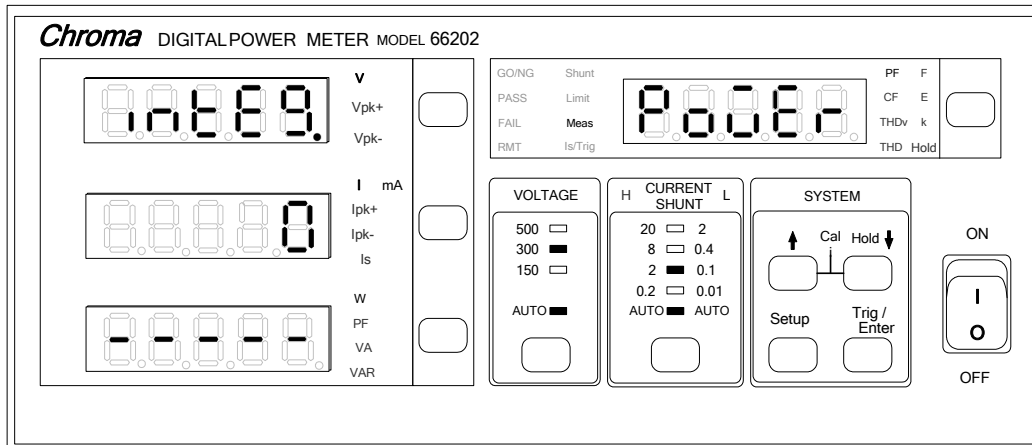

Figure 4-31 Setting Power
1. Press **Setup** to select Meas and the indicator of Meas is on. Figure 4-31 shows the setting of Power.